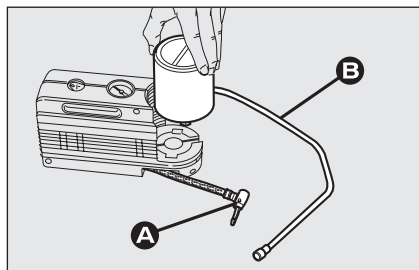

fig. 9
- ☐ disconnect connection A-fig. 9;
- ☐ connect connection A-fig. 9 to the cylinder and fit the transparent tube B-fig. 9 into the proper space.